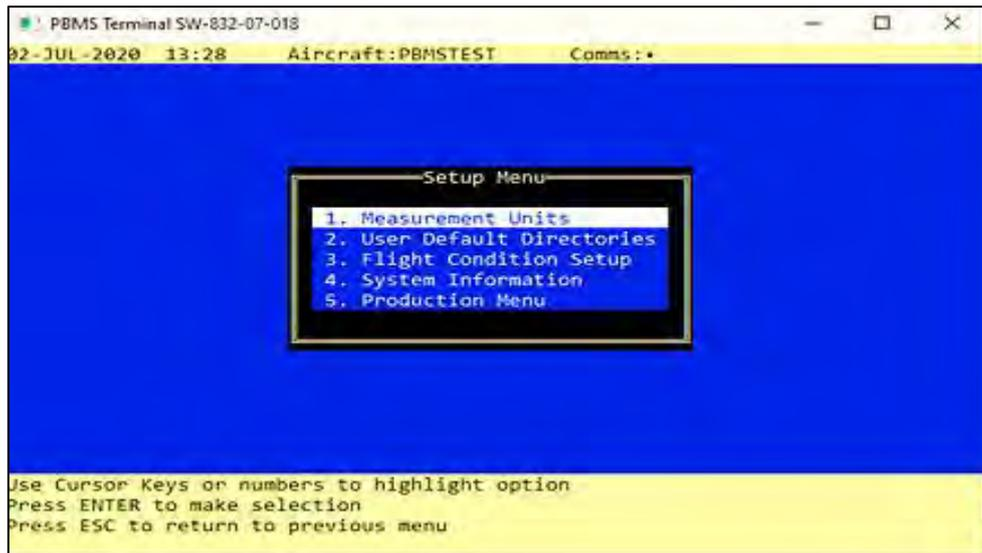

Figure 5-1 Set-up Menu
- (1) Select Set-up Menu from the Main menu and Press <Enter>. The Set-up Menu will be shown on the PBMS Terminal (**Ref Fig 5-1**).